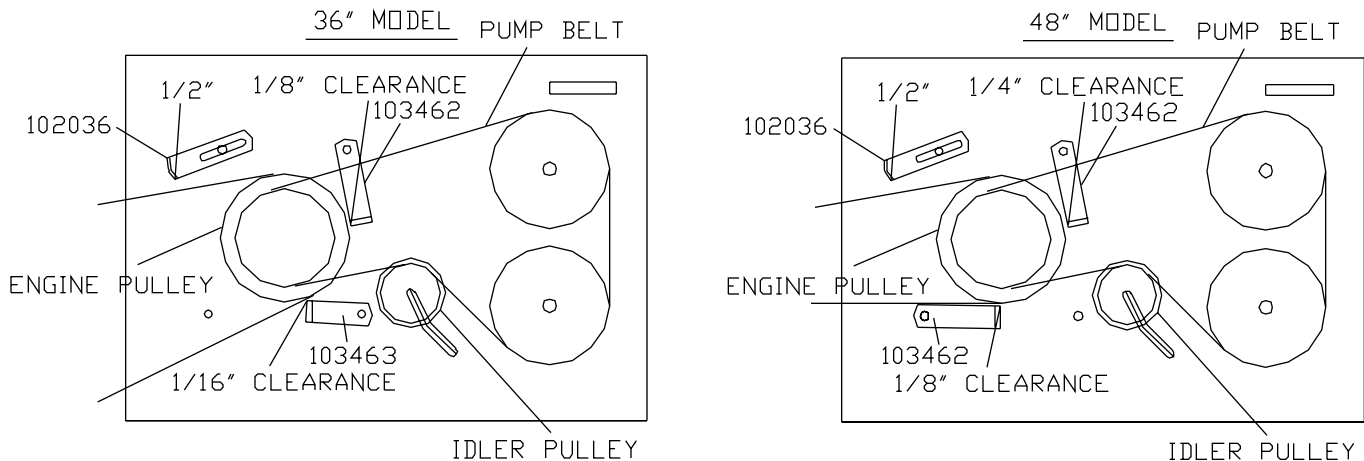

Figure 6
2. Belt guides under the engine should be adjusted as shown in figure 6.
4. Slide the idler pulley against the belt, retighten the nut while applying pressure to the idler pulley. (see fig. 6)